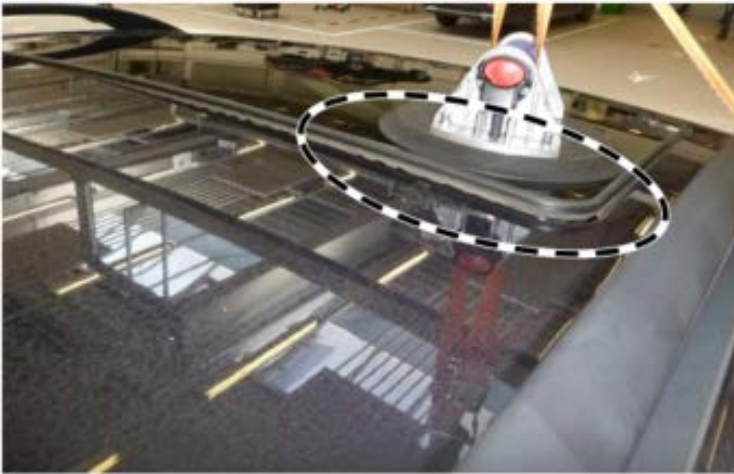

Figure 4
- i** The sliding roof panel is lifted out of the roof frame noticeably at the rear test positions 1 and 5 (**figure 4**).